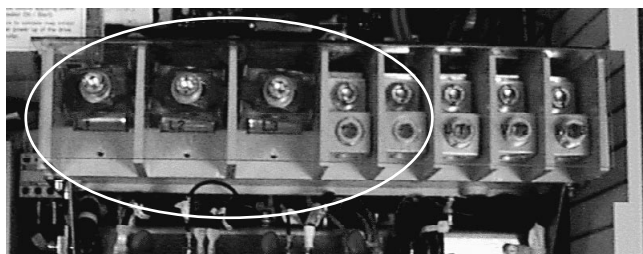

Figure 4.1.36: Location of Clam Shell Line Terminals
3. Remove user power wiring from the terminal being replaced. See Figure 4.1.36 on page 4.1.90.